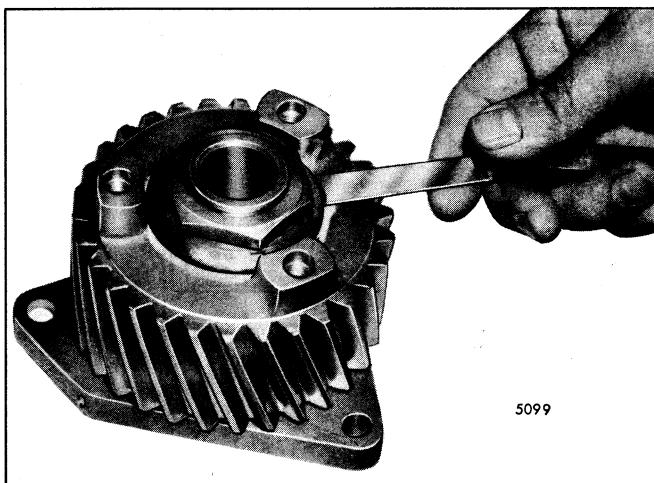

Fig. 3 - Checking End Play
7. Check the clearance between the blower drive gear support thrust washer and the blower drive gear thrust washer (Fig. 3). The clearance should be .002"-.018".